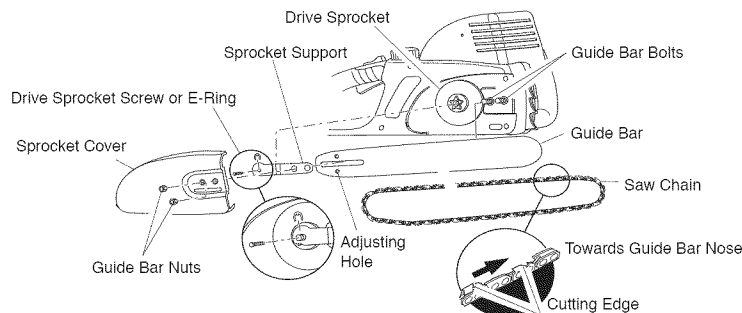

Figure 4 - Assembling Guide Bar and Chain
3. Loosen and remove drive sprocket screw or remove E-ring from shaft (see Figure 4). Remove sprocket support.
Note: Make sure cutting edges of chain are facing in right direction. Position chain so cutting edges on top of guide bar face guide bar nose (see Figure 4, and indicator on side cover of saw).
9. Turning chain tensioning knob (Model RM1635W) or chain tensioning screw (Model RM1632A), adjust position of adjustment block until it is aligned and inserted into the round adjusting hole on guide bar (see Figure 4, 5 and 6). Turning chain tensioning screw counterclockwise will move adjustment block to rear of guide bar. Turning chain tensioning knob or chain tensioning screw clockwise will move adjustment block to front of guide bar.